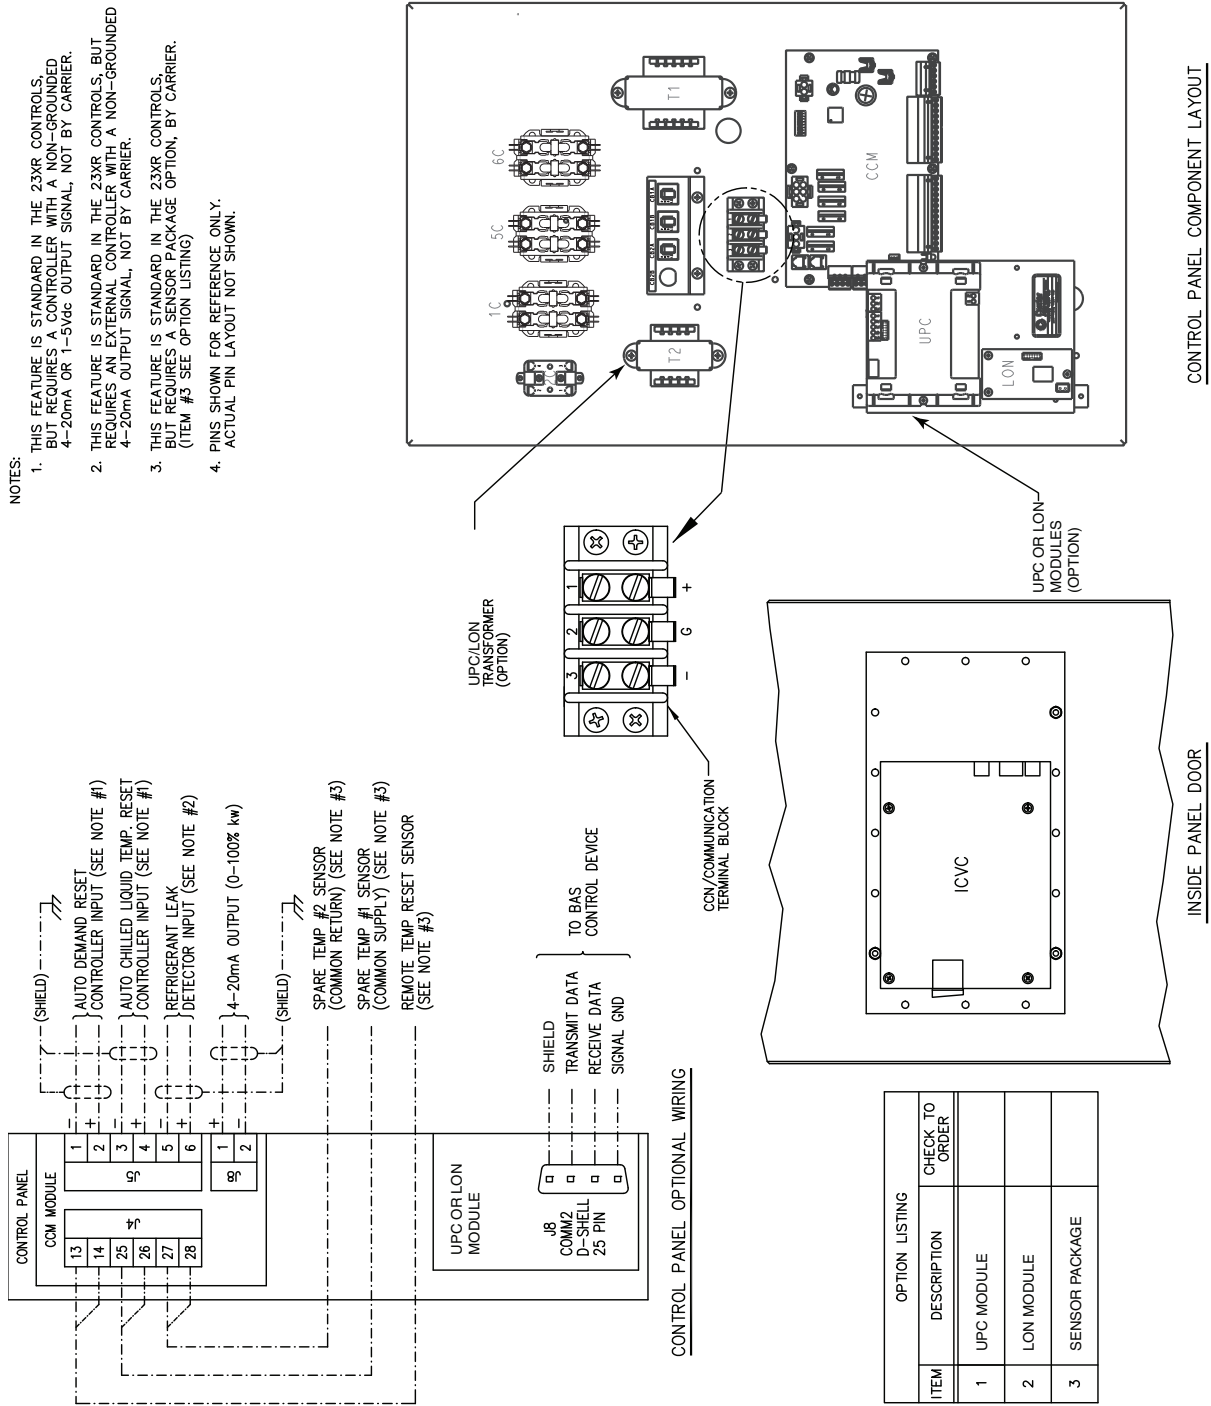

Fig. 61 — PIC III Control Component Layout (R,Q Compressor Units)
5. Connect the control wiring as shown in Fig. 61. Tighten all connections to 7 to 9 in.-lb.